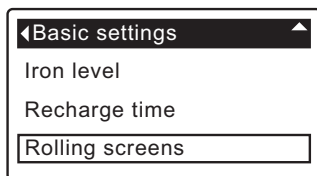

FIG. 45
3. Press the OK/MENU button to display the Basic settings menu (See Figure 45).
8. When selections are complete, exit this menu by pressing the LEFT ◀ button. The display will go back to the Basic settings menu (Figure 45).